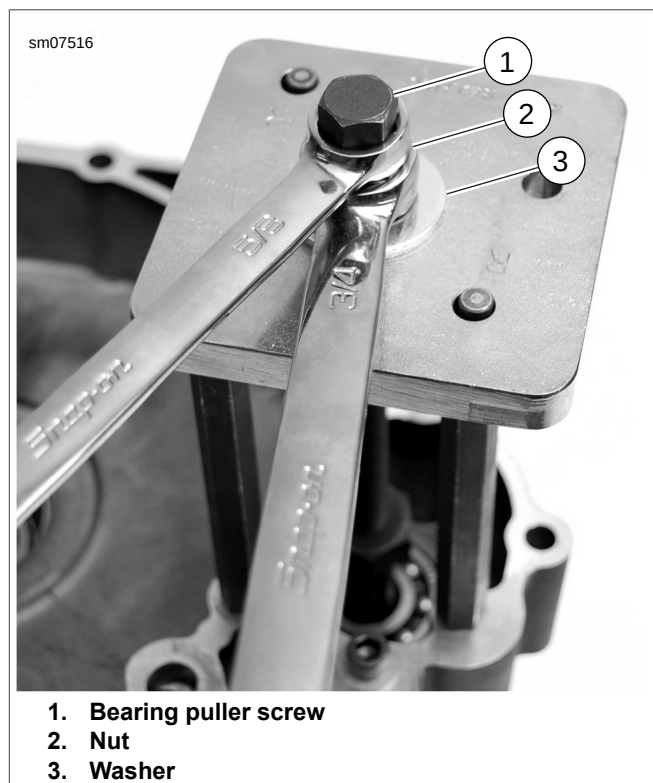

Figure 3-154. Removing Bearing
3. See Figure 3-154. Place washer (3) onto puller plate.
4. Insert BEARING PULLER SCREW (Part No. HD-48457-6) through washer (3) and puller plate.
6. While holding bearing puller screw (1), rotate nut (2) until bearing separates from crankcase.